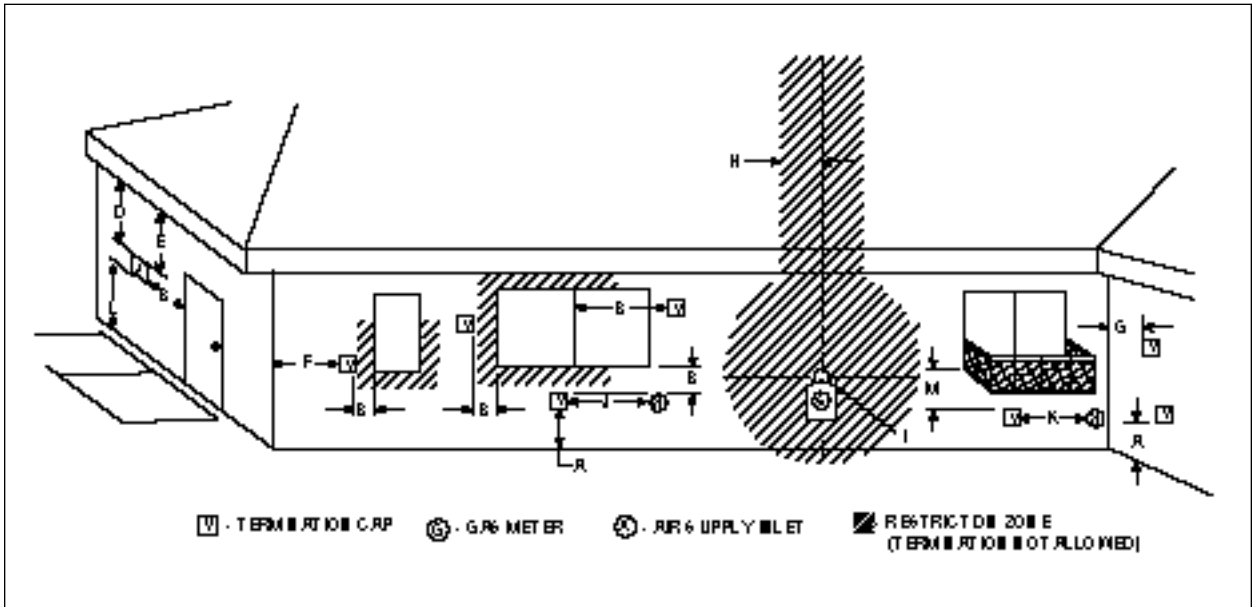

Figure 9
5. Termination Cap. Vent termination must not be recessed into the wall or exterior sheeting. Figure 9 illustrates termination cap locations and